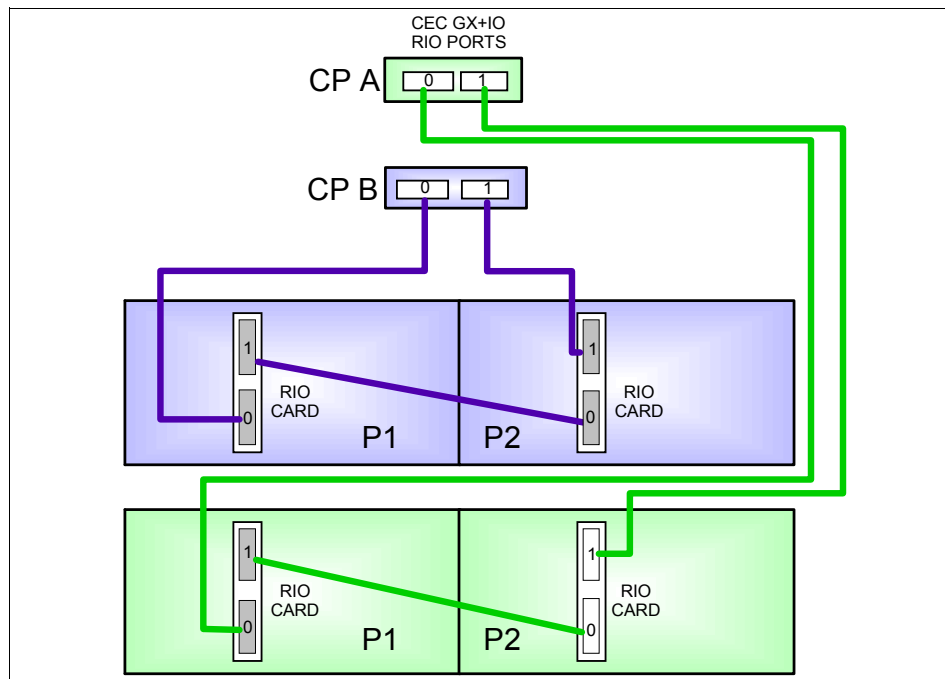

Figure 2-11 Single loop 7040-61D
- ▶ Single-loop (Figure 2-11) mode connects an entire I/O drawer to the CEC using one RIO-2 loop (2 ports). The two I/O planars in the I/O drawer are connected together using a short RIO-2 cable. Single-loop connection requires one loop (2 ports) per I/O drawer.
These cables provides a data and communication path between the memory cards and the I/O drawers (Figure 2-11 on page 39).